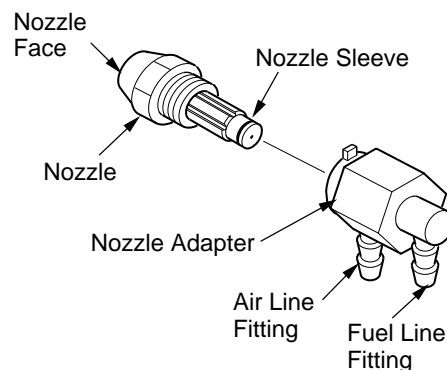

Figure 21 - Nozzle and Nozzle Adapter
6. Carefully remove nozzle from the nozzle adapter using 5/8" socket wrench (see Figure 21).
9. Replace nozzle into nozzle adapter until nozzle seats. Tighten 1/3 turn more using 5/8" socket wrench (40 to 45 inch-pounds). See Figure 21.